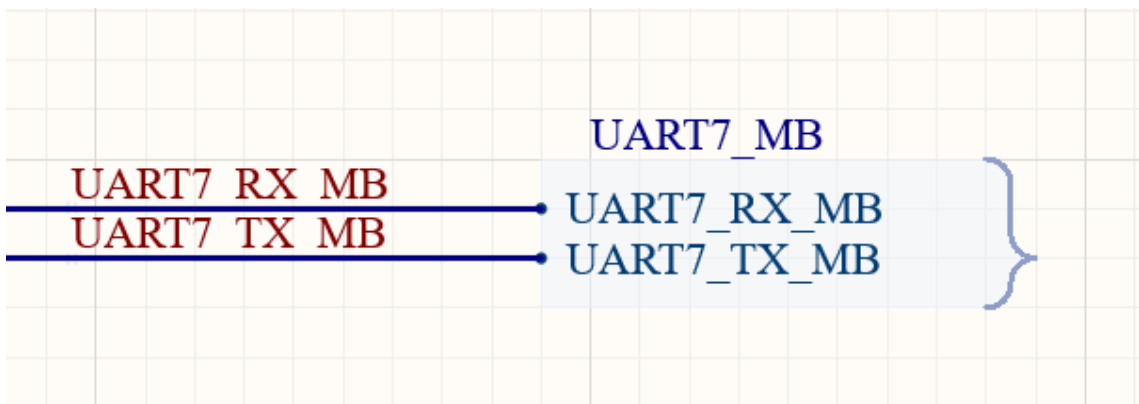

Figure 8. UART7\_MB Harness Connector with two Entries
15. Left-click and drag the Harness Connector so that the Harness Entries are connected and aligned to their respective wires as shown in Figure 8.